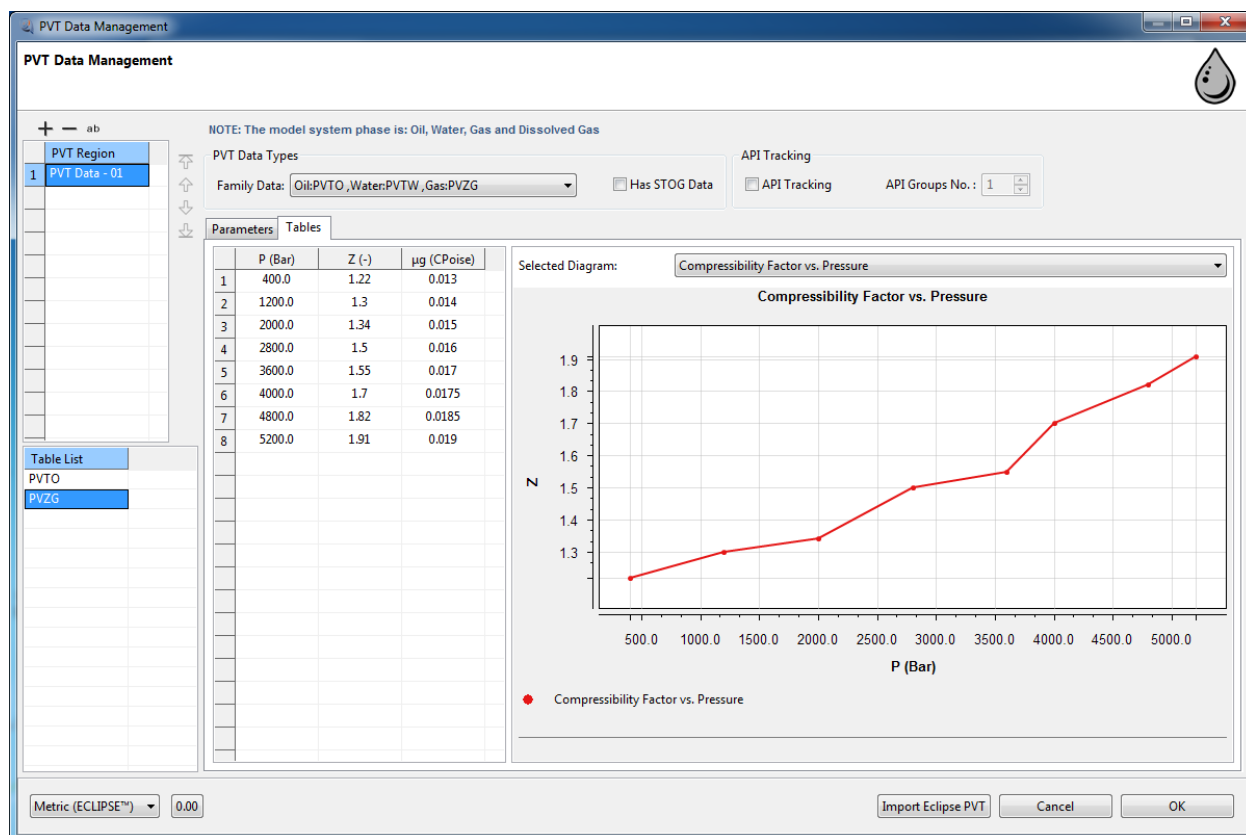

Figure 96 A Typical PVZG Table and Curve
The PVZG table is used to define the PVT properties of dry gas (using Z-factors). Each table consists of three columns of data; the reference temperature should be defined in parameters tab for this table. The three columns of the PVZG table include the gas phase pressure, the corresponding compressibility (Z) factor, and the corresponding gas viscosity, respectively. The gas phase pressure values should increase monotonically down the column, whereas the gas viscosity values should be level or increasing down the column. There must be the same number of entries in each column of a given table. The Figure 96 displays a typical PVZG table and curve.